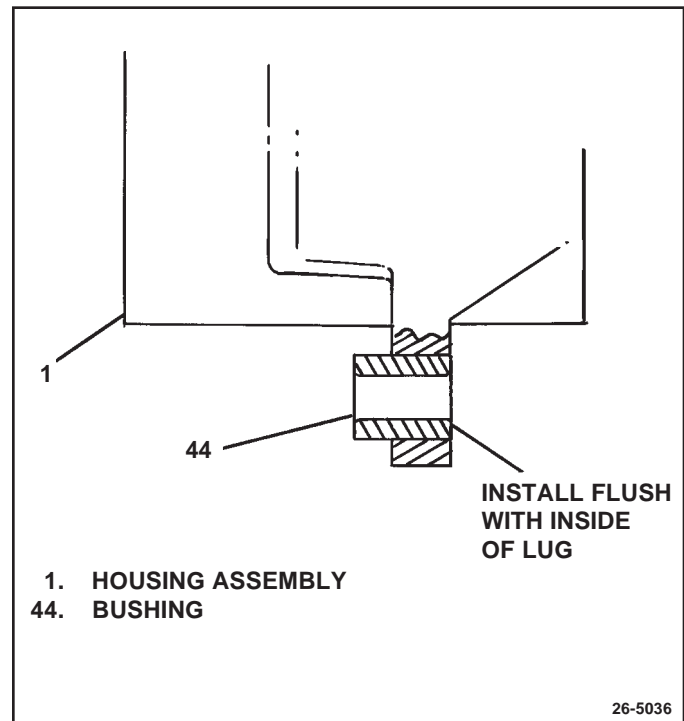

Figure 28. Removing Slip Bushing
To remove mounting hinge bushing (44) from lug on rectifier end housing (1), (See Fig. 28) press bushing from housing.